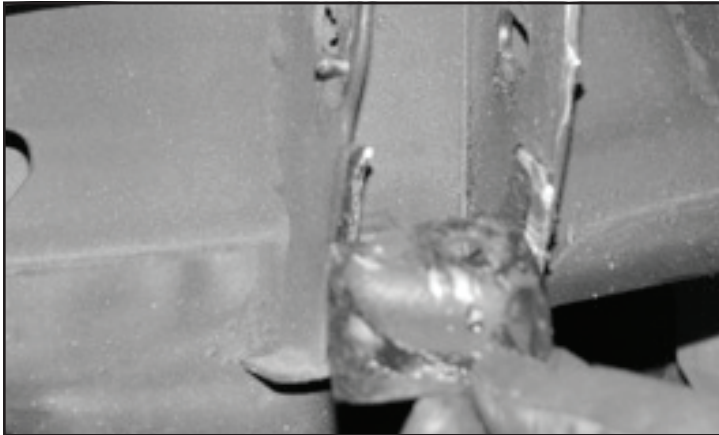

FIGURE 5 - STEP 7
7. Remove the factory CV shaft from the differential drive flange on both sides of vehicle. **SEE FIGURE 5**